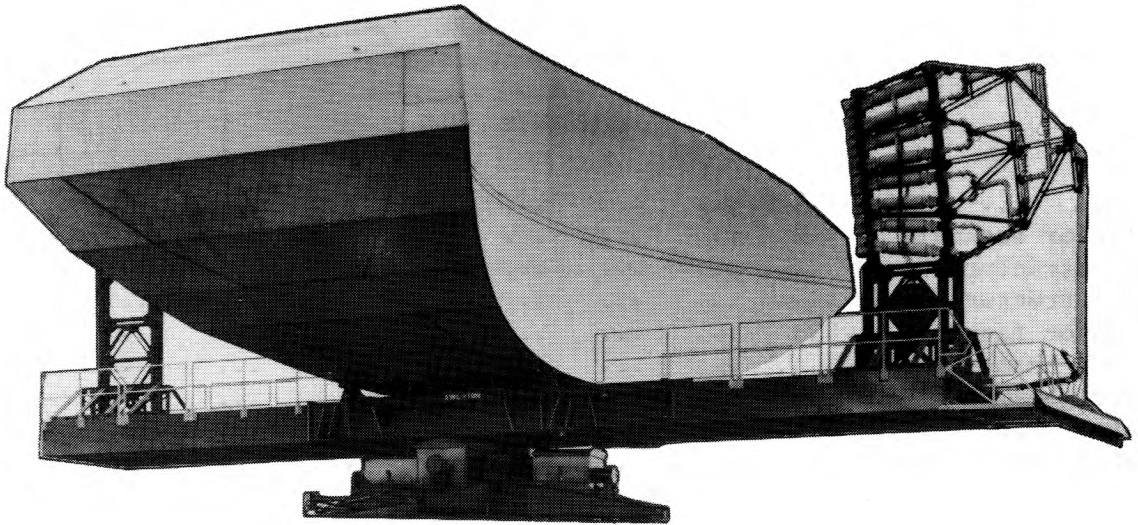

Fig.1 Aerial reflector and hornstack feed
1. The aerial structure shown in fig.1 forms the microwave aerial for Radar Type 84. The structure, which surmounts the aerial turntable described in AP 115J-0100-1, comprises a reflector assembly incorporating two paraboloidal reflector faces, a support beam assembly and an adapter.